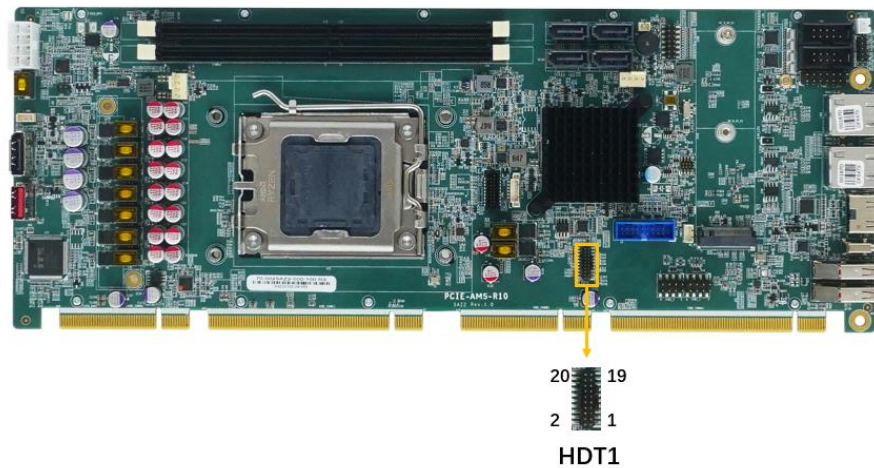

Figure 4-9: HDT Connector Location
- CN Location:** See **Figure 4-9**